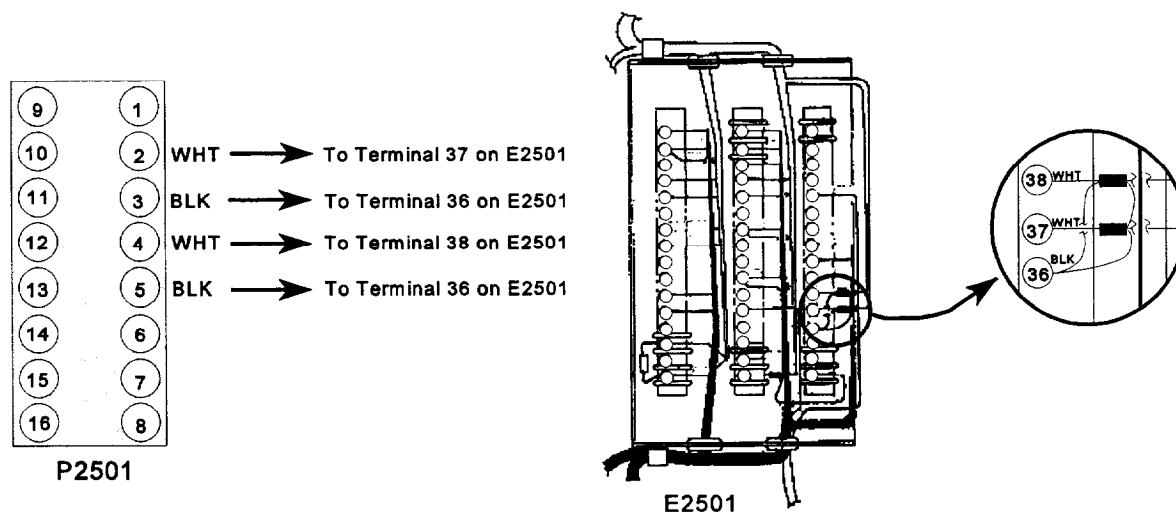

Figure 4
5. Verify the wiring from P2501 to E2501 in the elevation housing assembly according to the schematics in Figure 4.